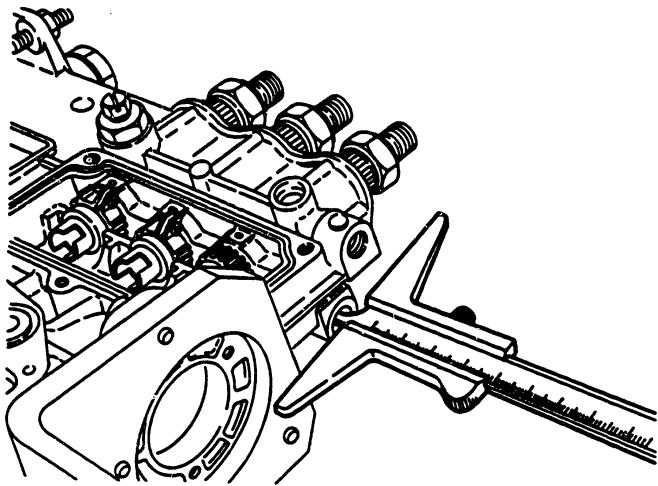
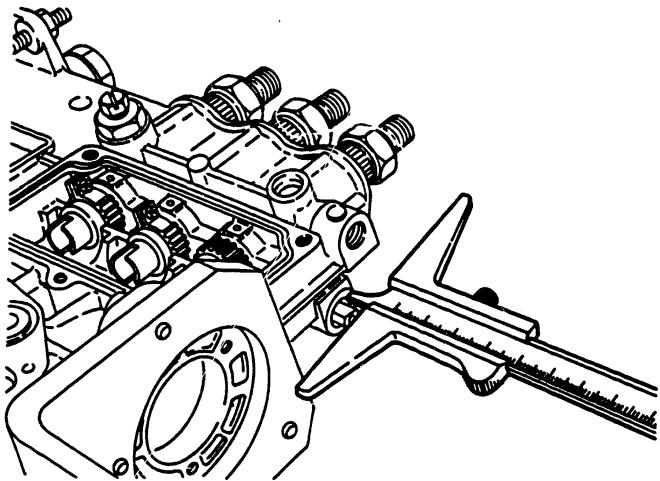

Fig. 76 Measuring control rack position at stop side
Fig. 77 Measuring control rack position at full side
6) Measure the distance between the end of the control rack and the pump housing end face with the control rack fully inserted (refer to Fig. 76). Then measure this distance when the control rack is fully protruding as shown in Fig. 77.